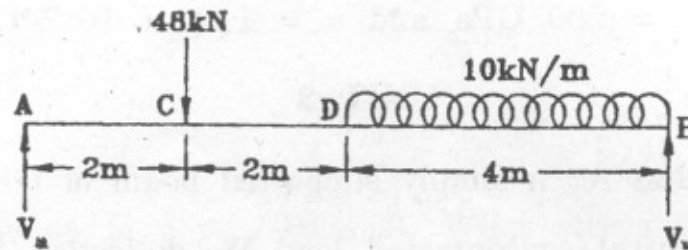

Fig. 3
4. (a) For the simply supported beam shown in Fig. 3, find :